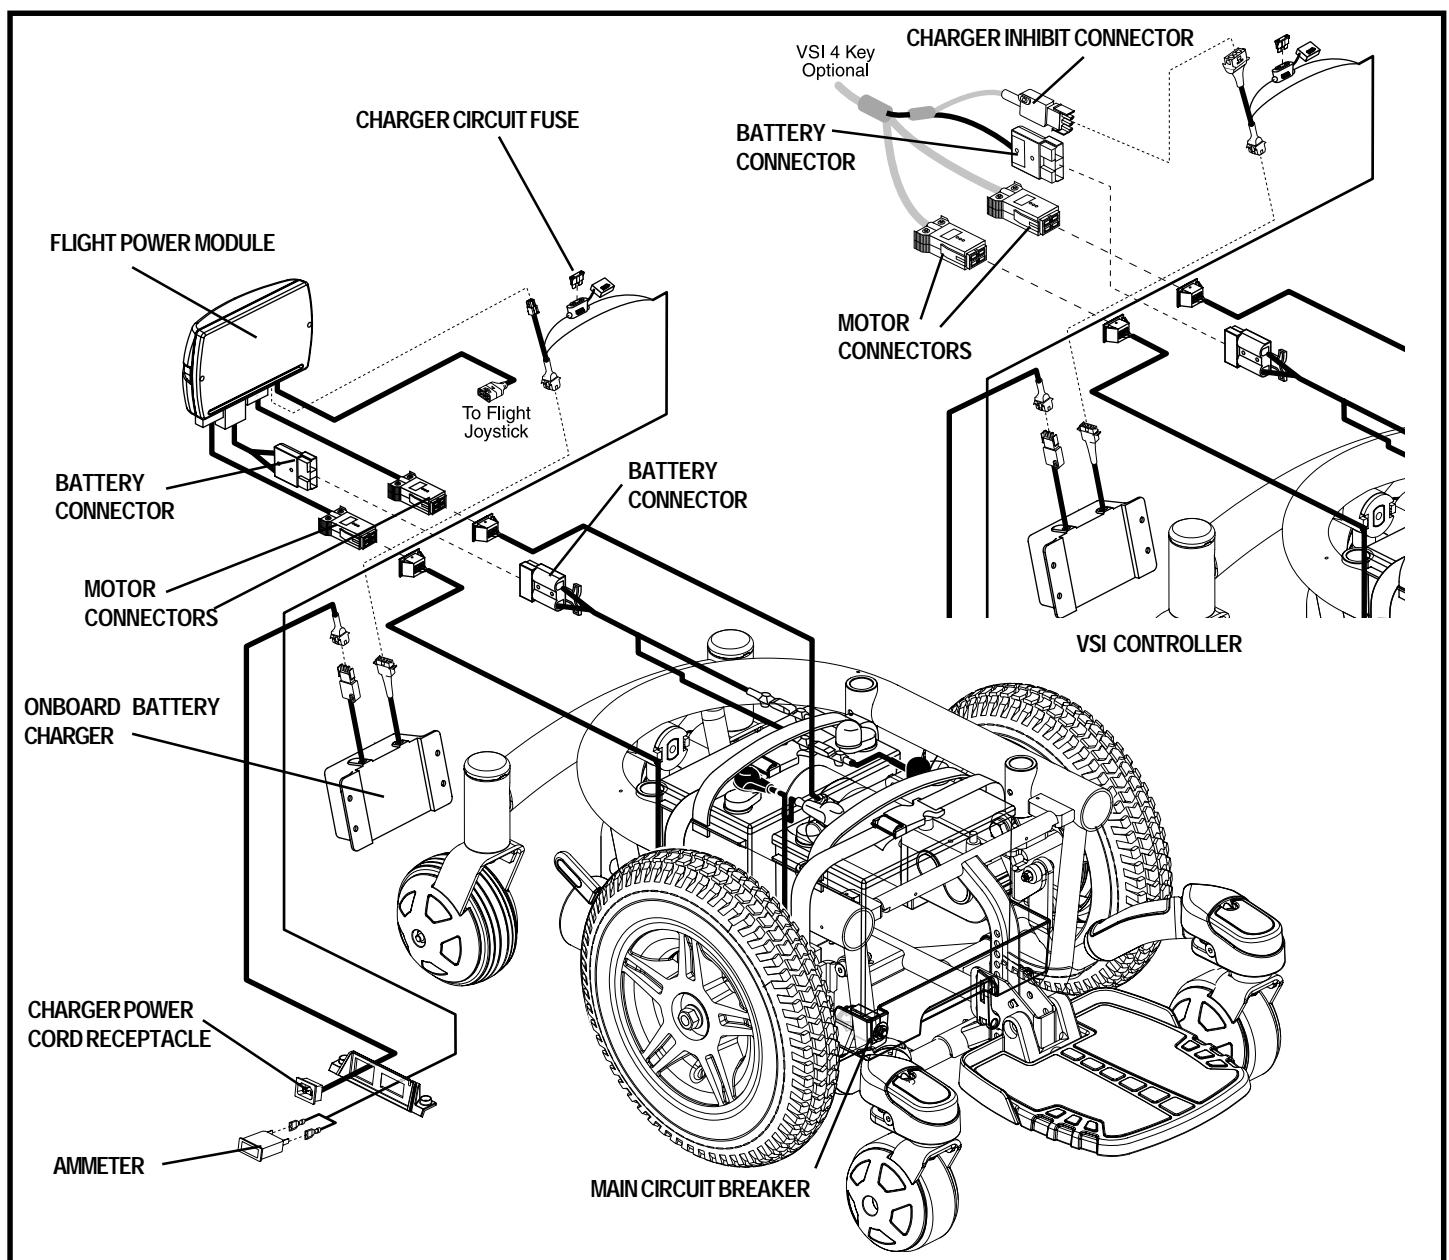

Figure 7. Jazzy 600 Electrical Components
The electrical components are located inside the power base. The ammeter and the charger power cord receptacle are located on the right side of the power base. The main circuit breaker is located on the front of the battery tray. The controller connector(s) are located inside the power base. See figure 7.
7. Plug the controller connector(s) into the power base. See figure 7.
3. Disconnect the controller connector(s) from the power base. See figure 7.